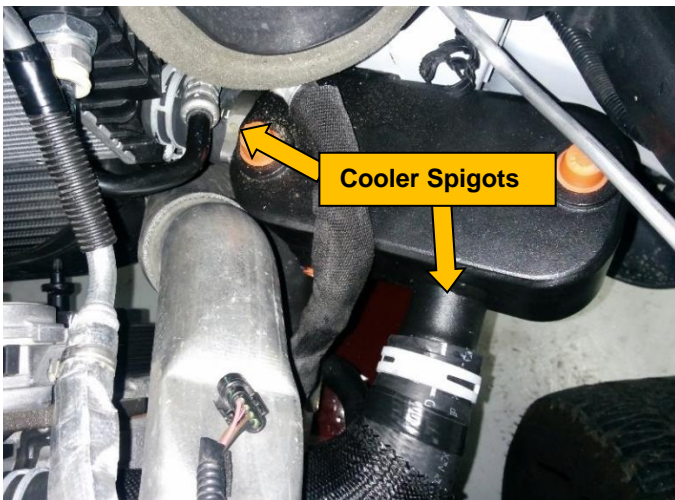

Figure 29 – Installing the cooler
- Secure short hose on OEM radiator spigot using OEM spring clamp. Install OEM engine mounted radiator hose on VMAC cooler and secure with OEM spring clamp. (Figure 29)